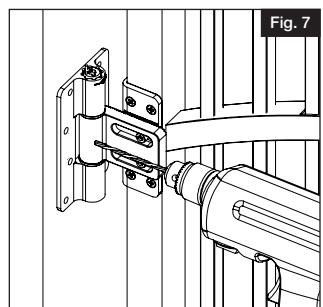

Fig. 7
- e.) Pre-drill pilot holes in wall/column (Fig. 7).